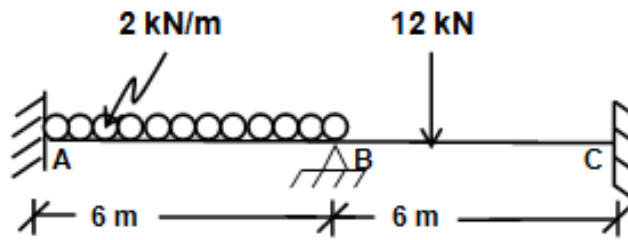

Fig. 6
5. Analyse the continuous beam shown in Fig. 6 by stiffness method. Assume flexural rigidity as constant for all the members of the beam. Also, draw the BMD. **(6)**